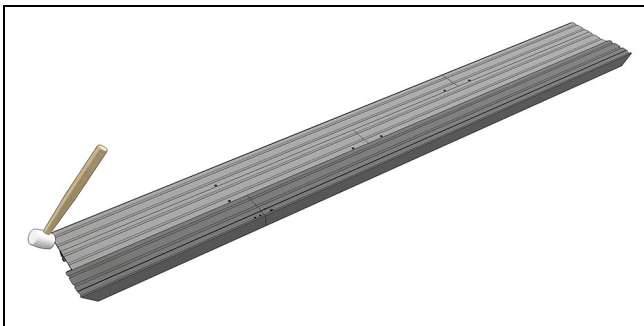

Figure 34
5. Press the splice sections together and seat with a rubber mallet. See Figure 34.